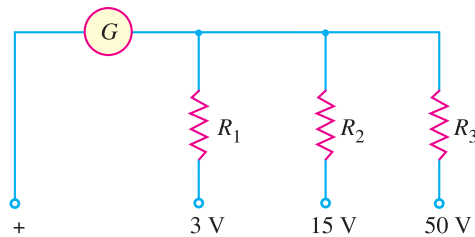

Fig. 22.29
2. The three range voltmeter is arranged as shown in Fig. 22.29. The ranges are 0 to 3 V, 0 to 15 V and 0 to 50 V as marked. If the full scale deflection current is 10 mA, what should be the values of R_1 , R_2 and R_3 ? The resistance of the meter is 5 Ω .